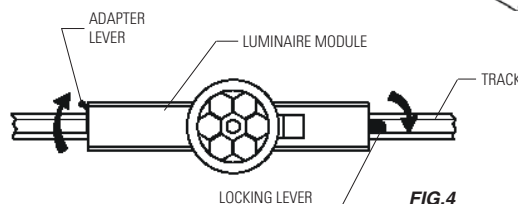

FIG.4
3. Insert luminaire module into the track. (Fig.4)
4. Turn adapter lever clockwise. (Fig.4)
5. Turn locking lever 60°. (Fig.4)